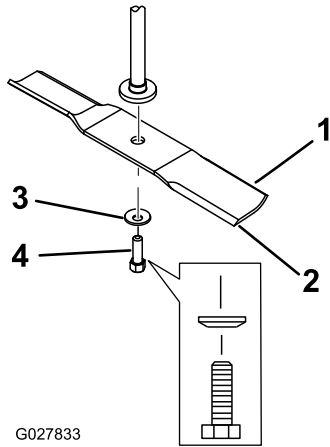

Figure 47
2. Remove the blade bolt, curved washer, and blade from the spindle shaft (Figure 47).
1. Install the blade onto the spindle shaft (Figure 47).
2. Install the curved washer (cupped side toward the blade) and the blade bolt (Figure 47).